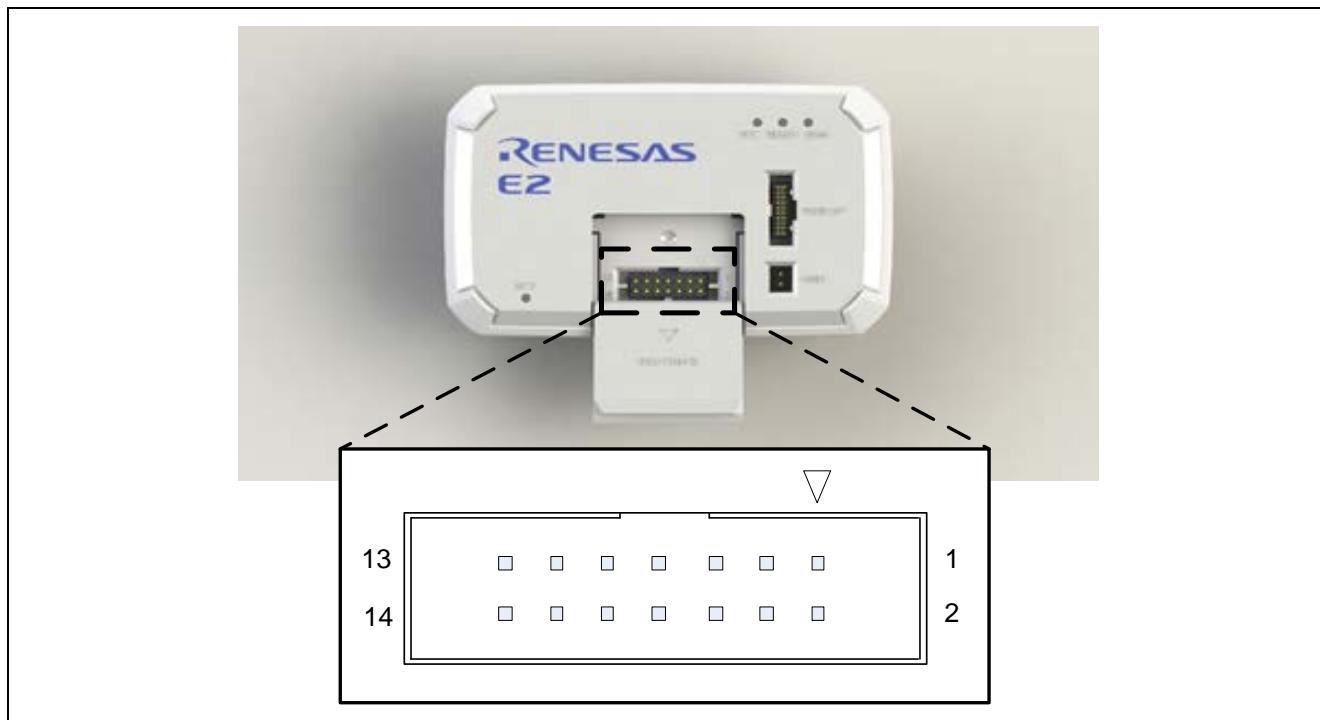

Figure 3-4 Pin Arrangement of E2 Expansion Interface
- For pin arrangement of the E2 expansion interface, see Figure 3-4 and Table 3-1.